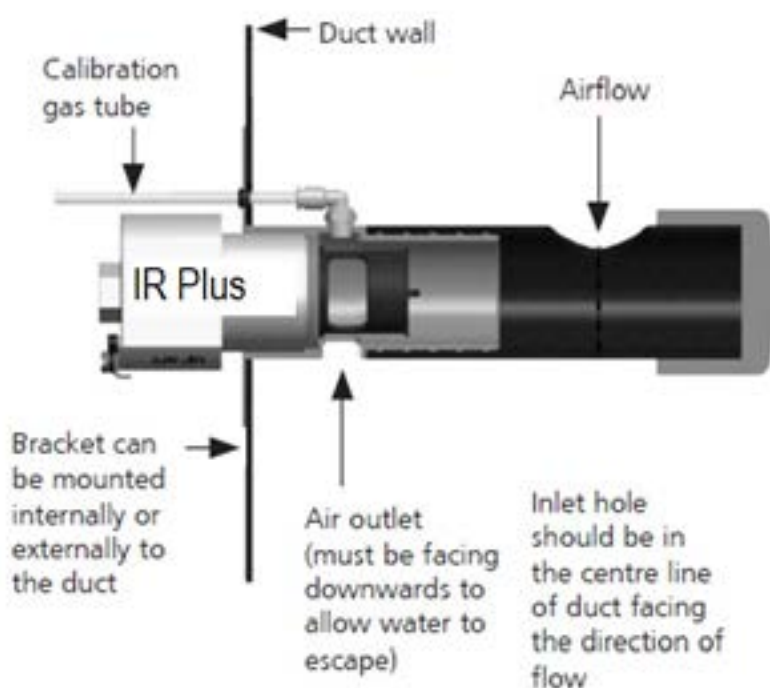

Figure 13: Duct Mount Illustration
4. Use the marking boss to mark up the duct ready for drilling the required holes as indicated on Figure 13. Make sure that the centre line is positioned equidistant from the two edges of the duct.